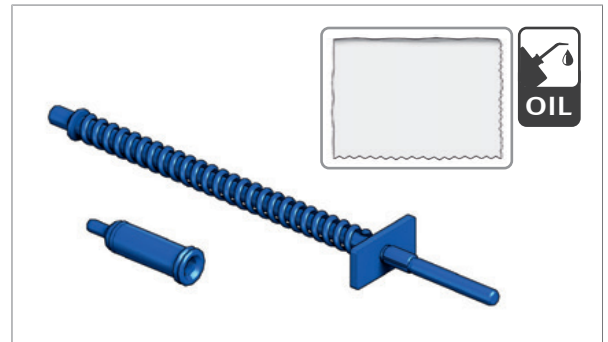

Fig. 115: Clean parts of gas operation
1. Lubricate parts of gas operation (Fig. 115).
3. Clean and dry parts of gas operation using cleaning rag (Fig. 115).